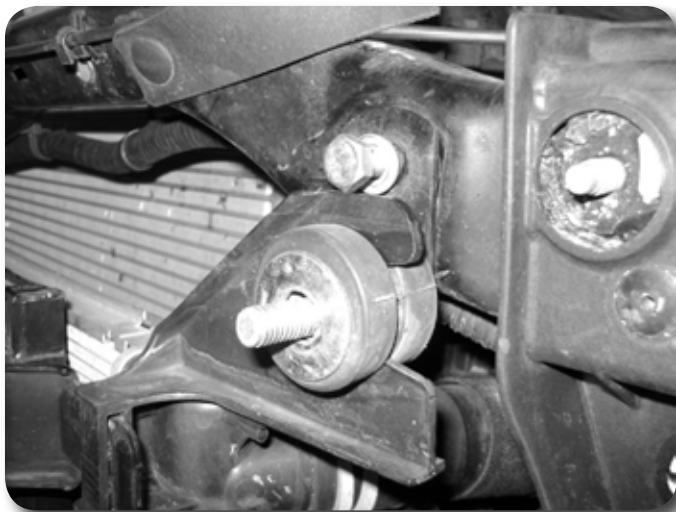

Figure 13
17. Attach new upper relocation straps to the upper radiator core support with carriage bolts and the stock upper hardware. Leave loose to allow the radiator to move around. Figure 13